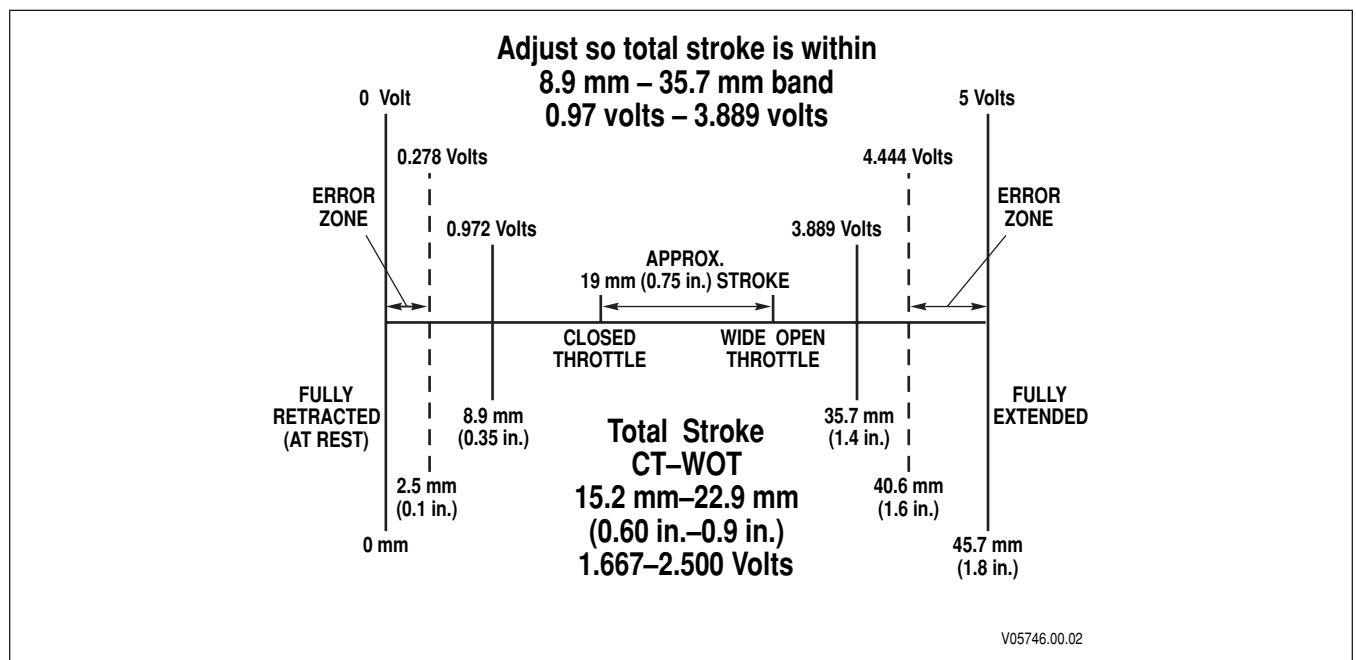

Figure F-2. Throttle Position Determination Diagram
2. Each position gives a different voltage. The TCM then converts this voltage into percent. Each millimeter of travel converts to approximately 0.110 volts. Figure F-2 diagrams the voltage and throttle movement relationship.
When properly installed by the equipment manufacturer (Figure F-3), the TPS should not require adjustment. Confirm that the throttle sensor is installed to manufacturer specifications before adjusting the throttle position sensor. The idle position should be approximately 8.9 mm or 0.97 volts or higher, and full throttle position should be approximately 35.7 mm or 3.889 volts or lower. The TPS is self-calibrating, meaning there is no optimum closed position or wide open position. As long as the travel is within the 8.5–35.7 mm range the TPS is set properly. A total stroke of 15.2–22.9 mm **must be maintained**. Watch the movement of the throttle sensor as the controls move it through its full stroke. Be sure there is no misalignment or obstruction to smooth movement through the full stroke. Make certain the idle and full throttle positions are not in the error zones (Figure F-2). The error zones occur when the idle position is less than 2.5 mm, or when the full throttle position is more than 40.6 mm. When idle or wide open throttle positions are in the error zones, the TCM will log a code. When a TPS code is logged, the TCM assumes a default throttle setting which will negatively affect shift quality.